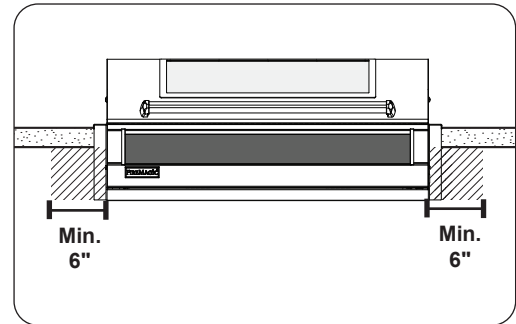

Fig. 14-1 Control panel clearances
- The control panel **MUST** have a minimum side clearance of 6" from any obstructions/side walls. See Fig. 14-1.